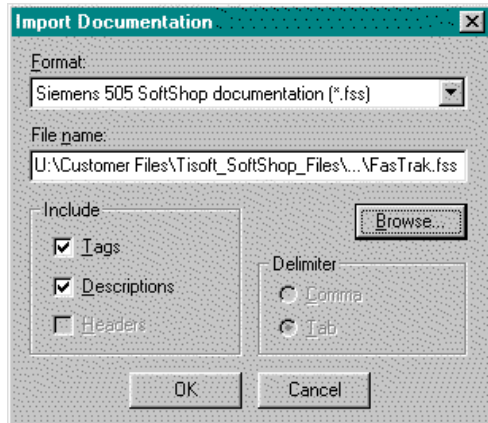

Figure 3.9
1. Type the program name in the File name field, or click Browse to search from valid program names (Figure 3.9).